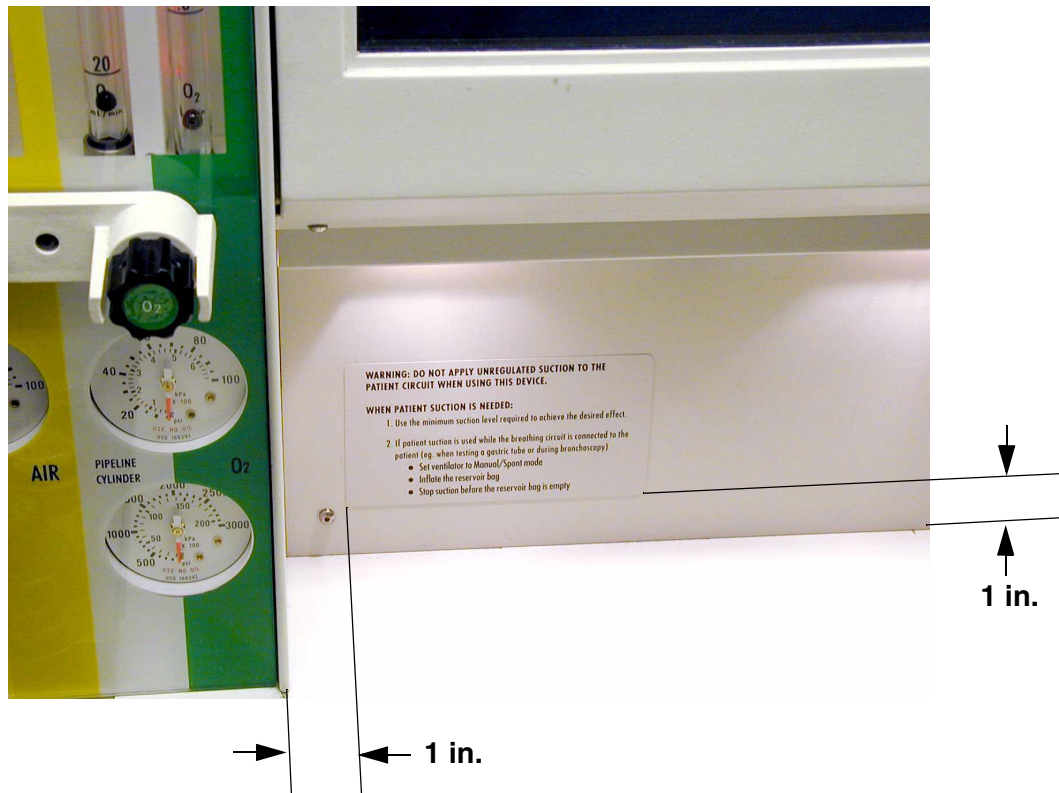

FIGURE 5. Suction Warning Label
- 5.1 Affix suction warning label P/N 4117092 to the table lamp assembly. Place the label one inch up from the table top and one inch from the left edge of the panel as shown in Figure 5.